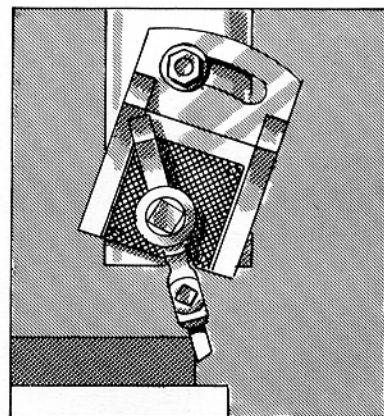

FIG. 400
NOTE: If the angular surface forms a slight angle with the vertical, a side-cutting tool may be used (Fig. 400). For example, if the surface makes a 15° angle with the vertical position, the head would be moved through 75° in order to feed the tool perpendicular to the angular surface (Fig. 399). The head is graduated through only 60° for each side of the vertical position. Therefore, the following set-up is more convenient:
1. Set the tool head in the vertical position (Fig. 400).
2. Set the clapper box over to the right (Fig. 400).
5. Hold the tool short and tighten it securely in the tool holder (Fig. 400).